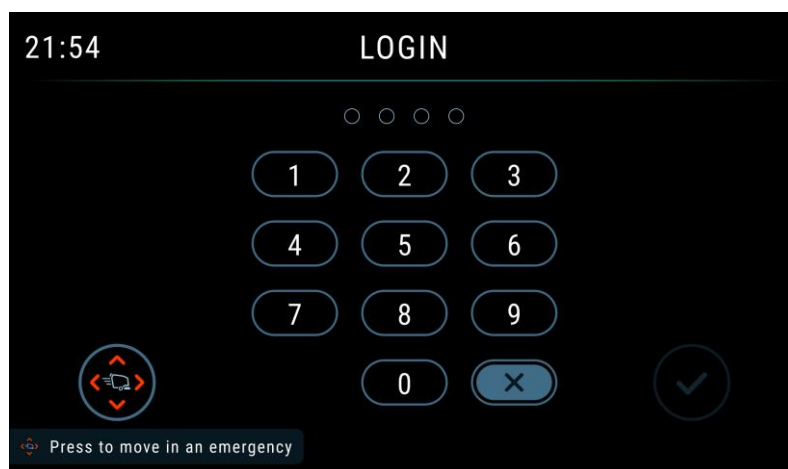

Figure 1
2. After restarting the machine, the machine will enter the password login interface shown in Figure 1, then enter your password to start the machine.